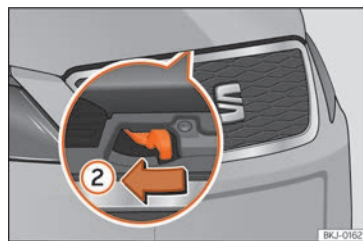

Fig. 12 Lever under the bonnet.
- To lift the bonnet, press towards the left on the lever located under the bonnet, in the centre »» Fig. 12 ②. The arrester hooks are released.